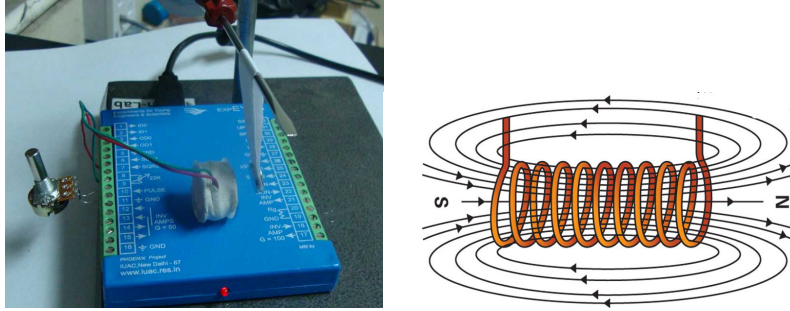

Figure 3.4: (a) Current carrying solenoid repelling a permanent magnet.
- Hang the pendulum near the solenoid as shown in figure 3.4
The magnetic field of a solenoid coil is shown in figure 3.4. The direction of field depends on the direction of the current.